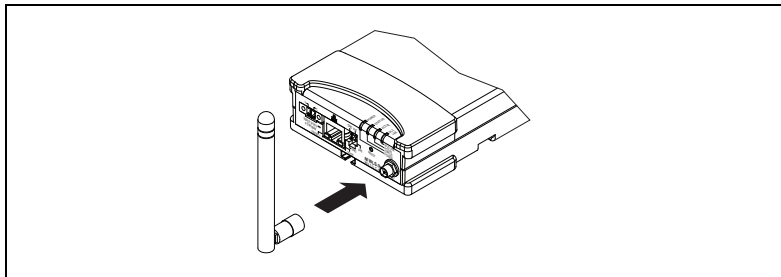

Figure 3. NI WLS-9163 Carrier Antenna Assembly
- (NI WLS-9163 Carrier Only)** Attach the supplied antenna as shown in Figure 3.